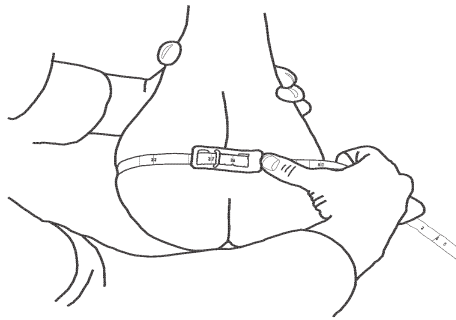

Figure 23. Proper method for measuring scrotal circumference
- Testicles must be descended into the scrotum. Hold testicles to the bottom of the scrotal sack by placing your fingers on the side of the scrotum and above the testicles (figure 23). Do not place fingers between the testicles.